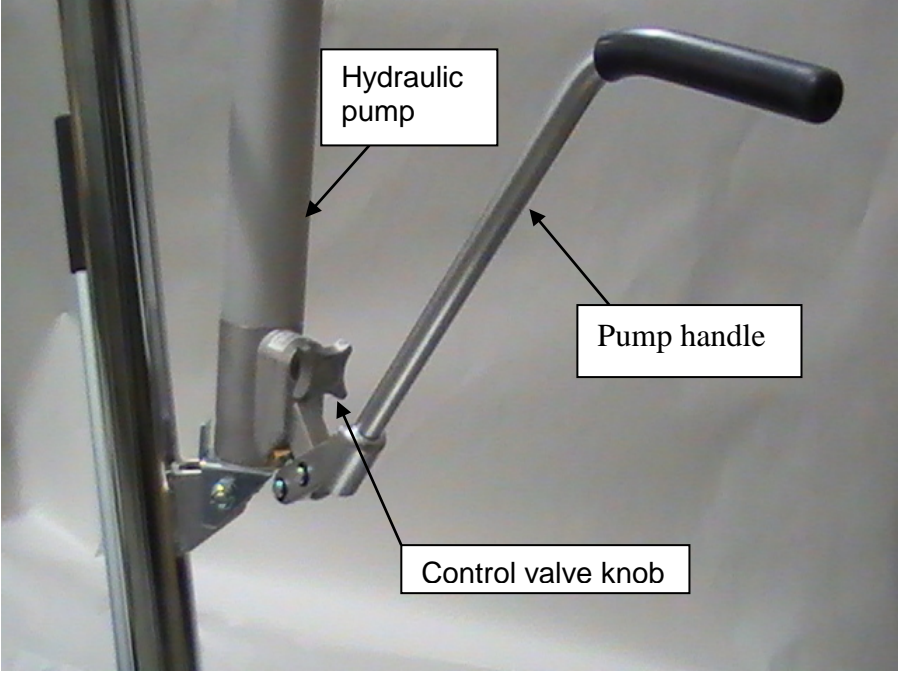

Figure 6
19. To operate the hydraulic pump, pump the handle in an upward and downward motion to elevate the lifter boom. Make certain the control valve knob (located on the hydraulic pump near the handle) is fully tightened clockwise. This enables the hydraulic pump to be operational (see Figure 6).
20. To lower the lifter boom, slowly turn the control valve knob counterclockwise. The rate of descent can be controlled by varying the knob's position. The lifter boom may not lower readily without weight. To test, simply apply downward force to the lifter boom (see Figures 6 & 8).